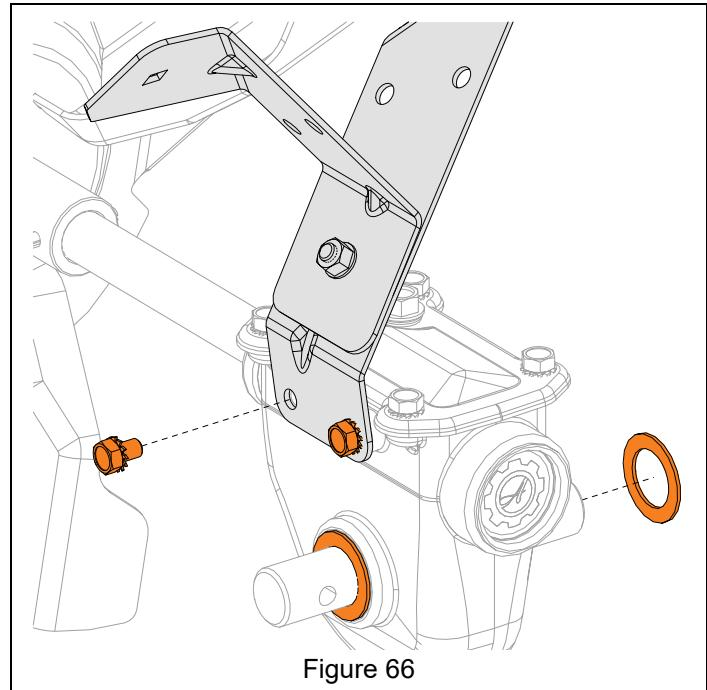

Figure 66
3. Reinstall support brackets to gearcase and secure with two external tooth locking bolts. See Figure 66.